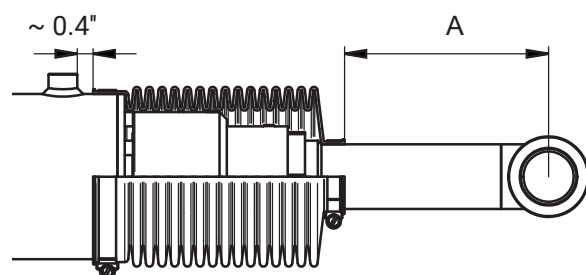

Figure 50. Installing boots
12. Fit the tilt cylinder boots. Figure 50.